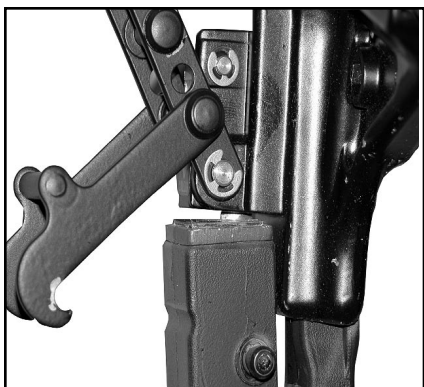
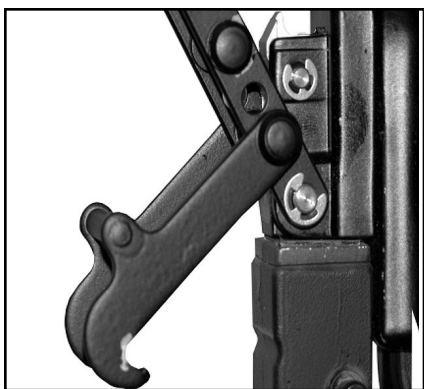

Fig 3
Fig 4
- When installing the *Revolution AVi* prod housing onto the gun body, the prod housing will angle upward as shown in *Figure 3*. You must push the prod housing downward so it sits flat on the nose of the gun body as shown in *Figure 4*.
angle in *Figure 3*, as this will cause damage to the gun body and the prod housing assembly.